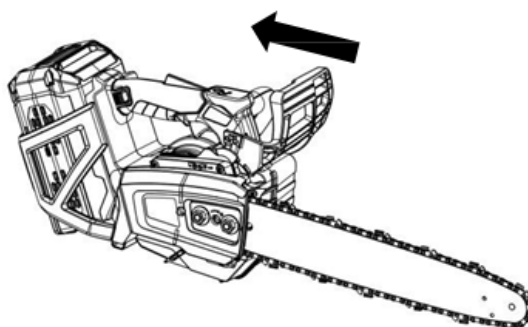

Fig 17
- When the hand guard is pulled fully back, the chain brake is released (Fig. 17).